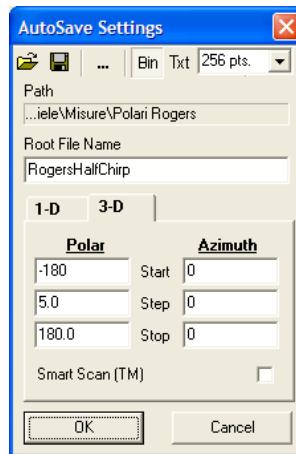

Figure 12.20
Let's start with setting the autosave function (see also 5.3). Pressing **Alt-F2** we recall the Autosave Setting dialog (fig.12.20); here we choose the 3D mode and input the desired filename ('RogersHalfChirp'), polar start (-180), polar step (5), polar stop (180), azimuth start (0), azimuth step (0) and azimuth stop (0).